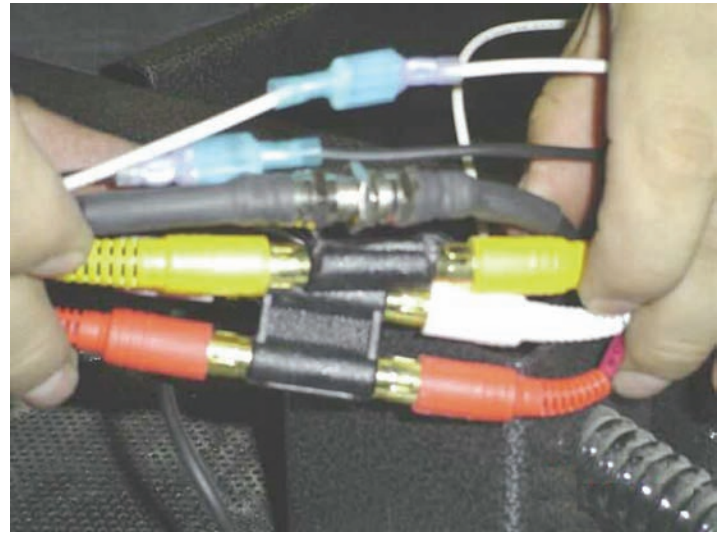

Figure 37
13. Connect all connection cables to each other by matching colors (Figure 37).